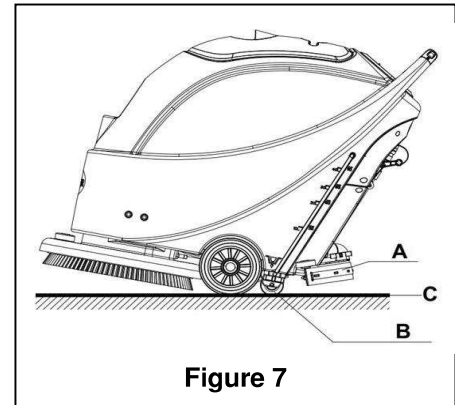

Figure 7
8. Release the safety switch (1) to turn off the brush/pad-holder and solenoid valve.
9. Press the Vacuum switch (39) to the “Off” position, and the Vacuum will delay for 5 seconds before stopping work.
10. Press the solution control switch (40) to the “Off” position to completely turn off the solution flow.
11. Press the power switch (38) to the “Off” position. And disconnecting the power cable (9) from the power supply.
12. Use the squeegee lift handle (14) to lift the squeegee.
13. Grasp the handle (2) and gently tilt the machine backward until the guide wheel (B) touches the floor. See Figure7.